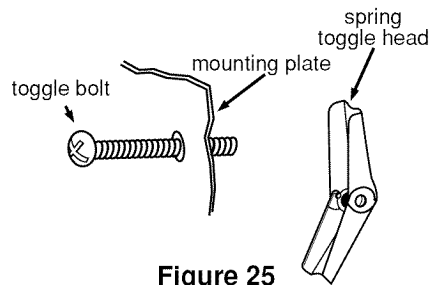

Figure 25
2. Prepare the toggle bolts by attaching a spring toggle head to the end of each toggle bolt as shown in Figure 25.